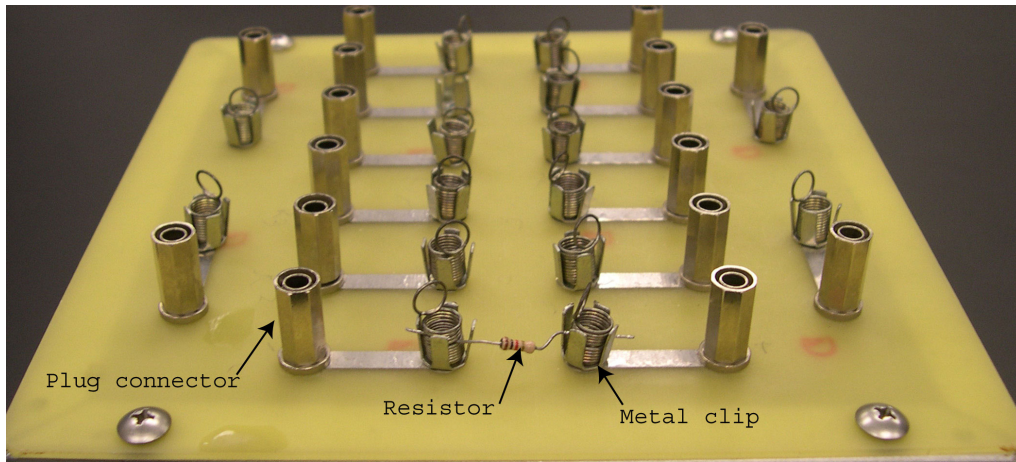

Figure 2.6: Breadboard
- breadboard (Fig. 2.6)
The breadboard is designed for quick construction of simple electronic circuits and is shown in Figure 2.6. Electronic elements (e.g. resistors) are